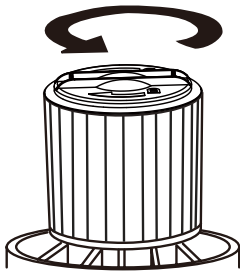

Fig. 13
20. To remove the cartridge filter, unlock and remove the filter retainer 18 by turning the retainer handle counter-clockwise. Fig. 13 & 14.